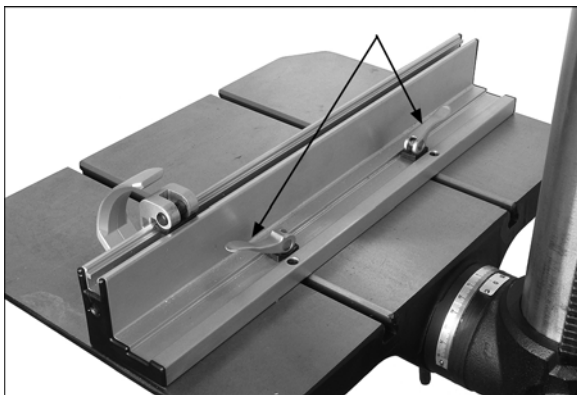

Figure 10
16. Slide fence into t-slots from front edge of table. To secure fence, push down handles (Figure 10).